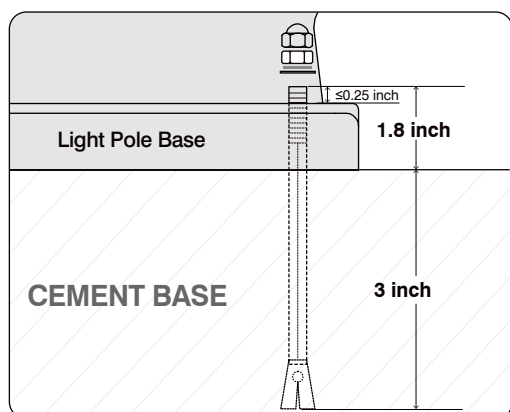

FIG.2
2. Install the expansion screws into the corresponding holes, leaving about 1.8 inches. (FIG.2)
5. Please note that after the **Light Pole Base** is placed in the **CEMENT BASE**, the height from the **Anchor Bolts** to the **Light Pole Base** should not exceed 0.25" (6.5mm) , as illustrated in FIG.2.